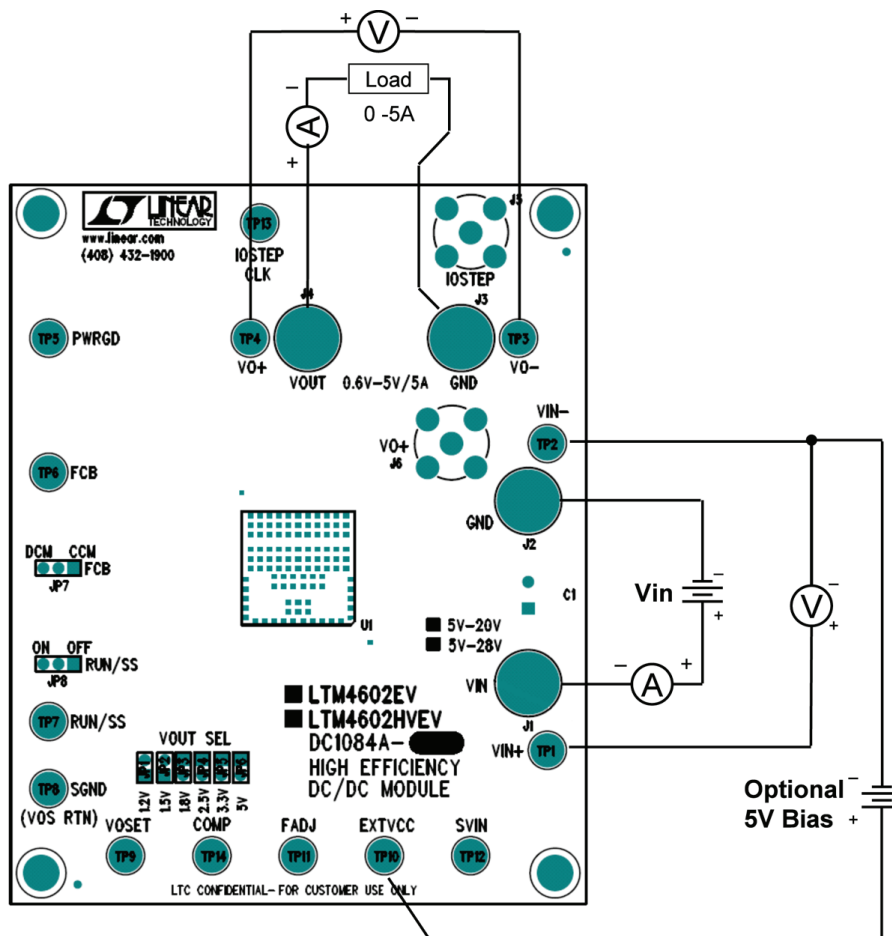

Figure 1. Test Setup of DC1084A-A (EXTVCC Bias Supply is Optional)
Demonstration circuit DC1084A-A is an easy way to evaluate the performance of the LTM4602EV. Please refer to Figure 1 for proper measurement equipment setup and follow the procedure below:
2. With power off, preset the load to 0A and VIN supply to be less than 20V. Connect the input power supply, load, optional 5V bias supply and meters as shown in Figure 1. The optional 5V bias supply must be off anytime the supply to VIN is turned off.